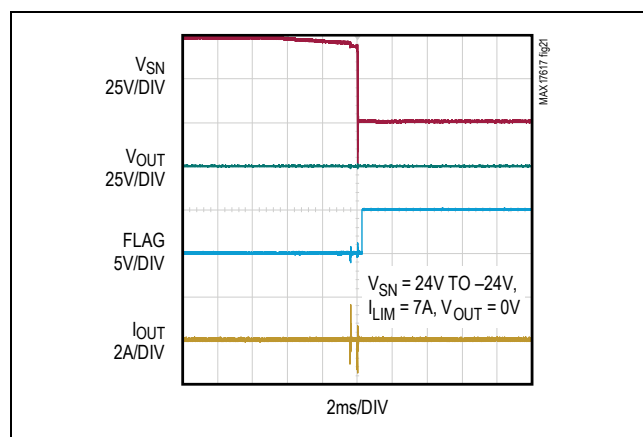
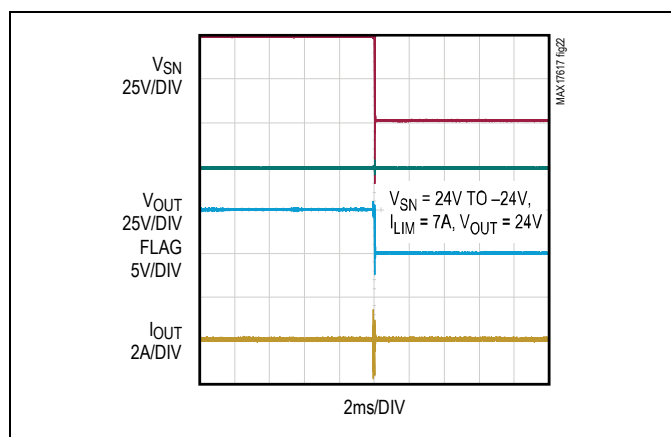

Figure 21. Input Reverse-Polarity Protection at $V_{OUT} = 0V$ and $V_{SN} = -24V$
Figure 22. Input Reverse-Polarity Protection at $V_{OUT} = +24V$ and $V_{SN} = -24V$
The magnitude of reverse-polarity voltage protection is dependent on the operating load bus voltage (V_{OUT}) and the voltage-blocking capability of the external nFET. For example, for protection down to a -55V input voltage with $V_{OUT} = 30V$, an external nFET rated for 85V is needed. The devices provide a gate drive (GN) of 6.5V (typ). Figure 21 shows the reverse-polarity protection of MAX17617 with $V_{OUT} = 0V$ and $V_{SN} = -24V$. Figure 22 shows the reverse-polarity protection of MAX17617 with $V_{OUT} = +24V$ and $V_{SN} = -24V$.